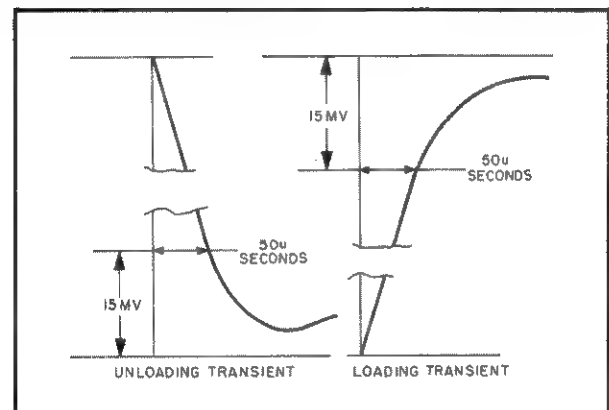

Figure 5-8. Transient Recovery Time, Waveforms
- k. Starting from the major graticule division representative of time zero, count to the right 50µsec and vertically 15mV. Recovery should be within these tolerances as illustrated in Figure 5-8.